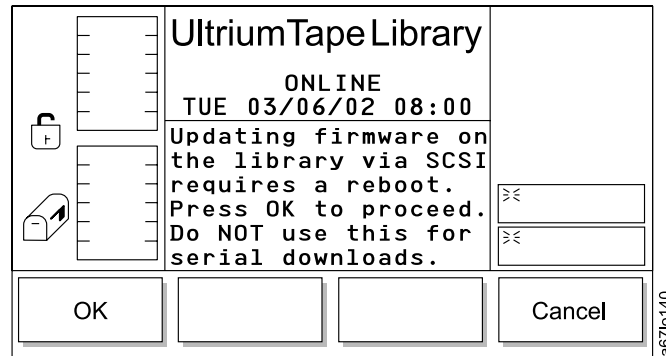

Figure 164. Firmware Update Dialog
- If **Firmware Update** is selected, the Firmware Update Dialog displays (see Figure 164 on page 135).